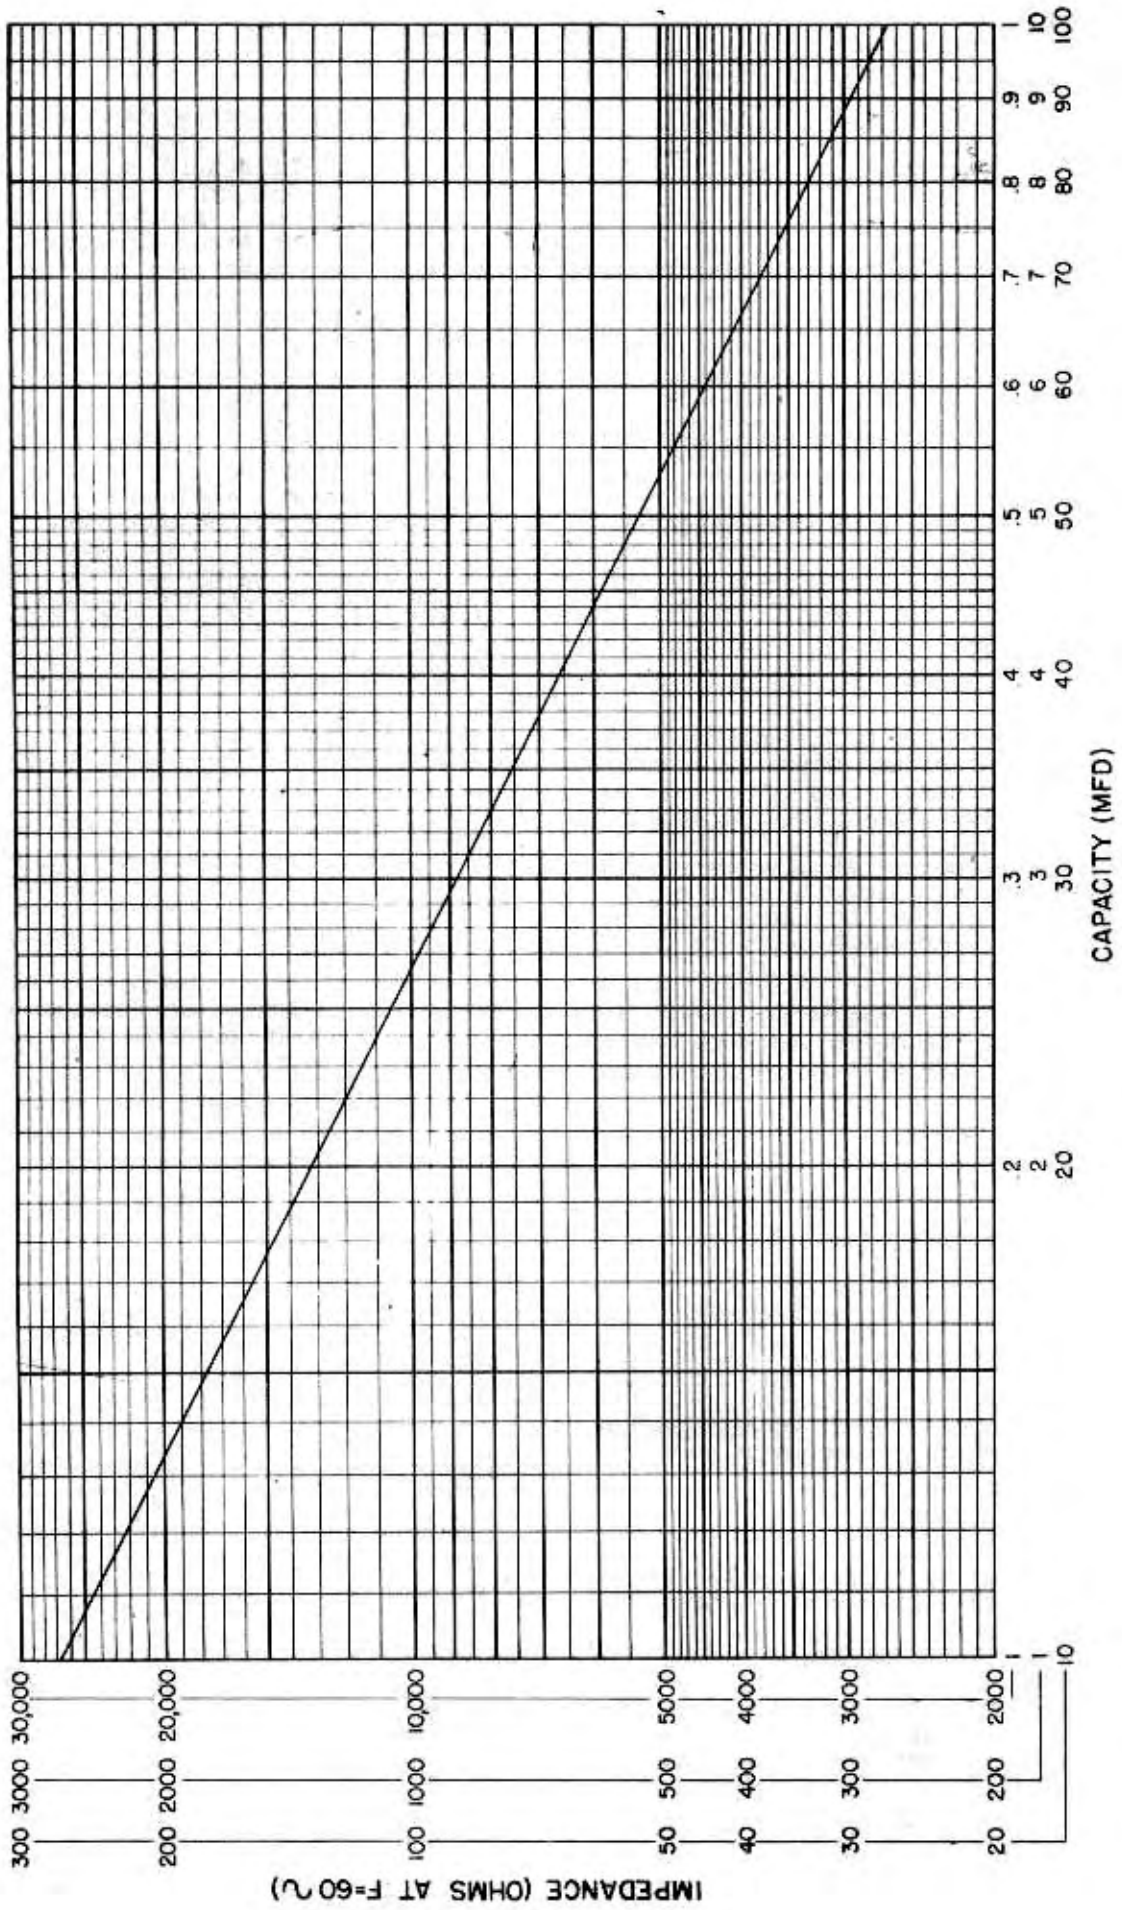

FIGURE 3.1 - IMPEDANCE CHART
The theory of the inductance measurements is similar to that of a capacitance measurement with the impedance of the inductance coil replacing the impedance of the capacitor. As the capacity scale is used in making measurements, a chart is given in Figure 3.1 which relates capacity readings to impedances. This impedance, in its affect in the circuit, may be due to either an inductance or a capacitor. A second scale on the chart evaluates the coil directly in henries and may be used if the ohmic resistance of the coil is low.
(1) Read the numerical value of the capacity directly from the scale. Find the associated impedance on the graph given in Figure 3.1. This value is Z_L in the formula which is given in (3) below.
(2) Determine the resistance of the inductance by means of an ohmmeter. This value is R_L in the same formula.
(3) Knowing Z_L and R_L , we can determine the inductance from the formula:
Therefore, the error due to the resistance is greater than 1%. Referring to the graph in Figure 3.1, we find that the impedance for a capacity reading of 8.8 MFD is 300 ohms. Substituting in the formula, we have: